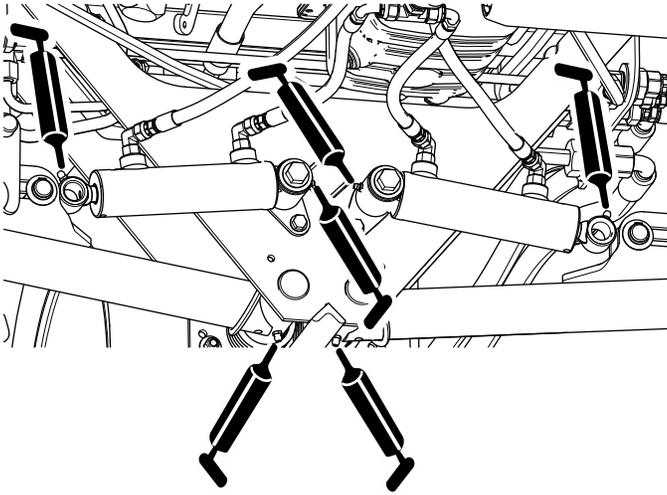

Figure 58
- Rear lift-arm pivots and lift cylinders (3 each side); refer to Figure 58.